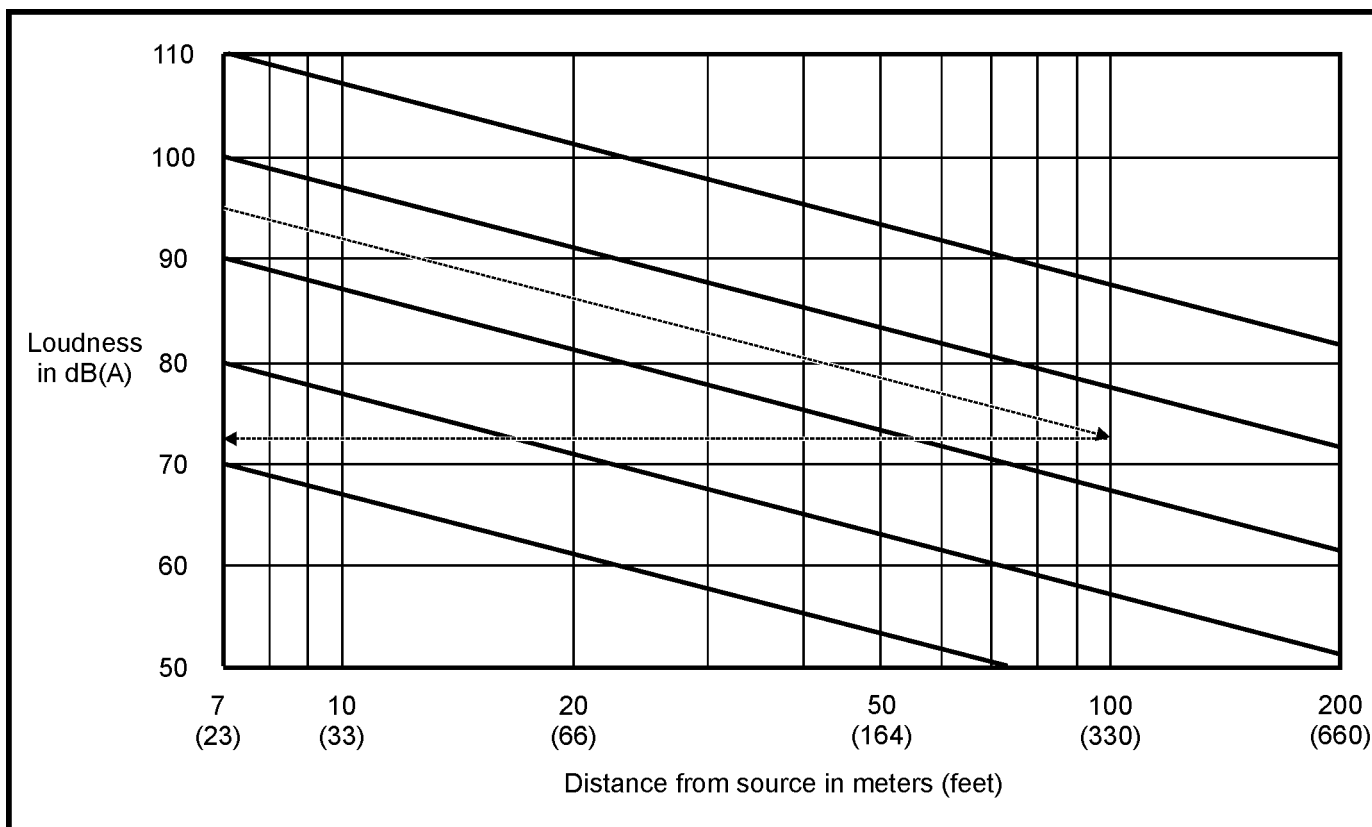

Figure 4. Distance Effects on dB(A)
Figure 4 below can be used as an alternative to the formula for estimating the sound level at various distances (such as to the property line). For instance, as shown by the dashed arrows, if the noise rating of the generator set is 95 dB(A) at 7 meters, the noise level 100 meters away will be approximately 72 dB(A).
When using Figure 4, draw a line parallel to the slanted lines from the known dB(A) value on the vertical scale line to the vertical line for the specified distance. Then draw a horizontal line back to the vertical scale line and read the new dB(A) value.